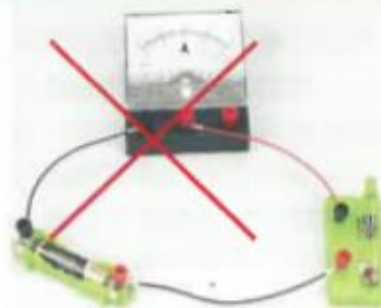

Figure 3-2
2. As shown in Figure 3-2, the connection method is wrong, and the ammeter is not allowed to be directly connected.